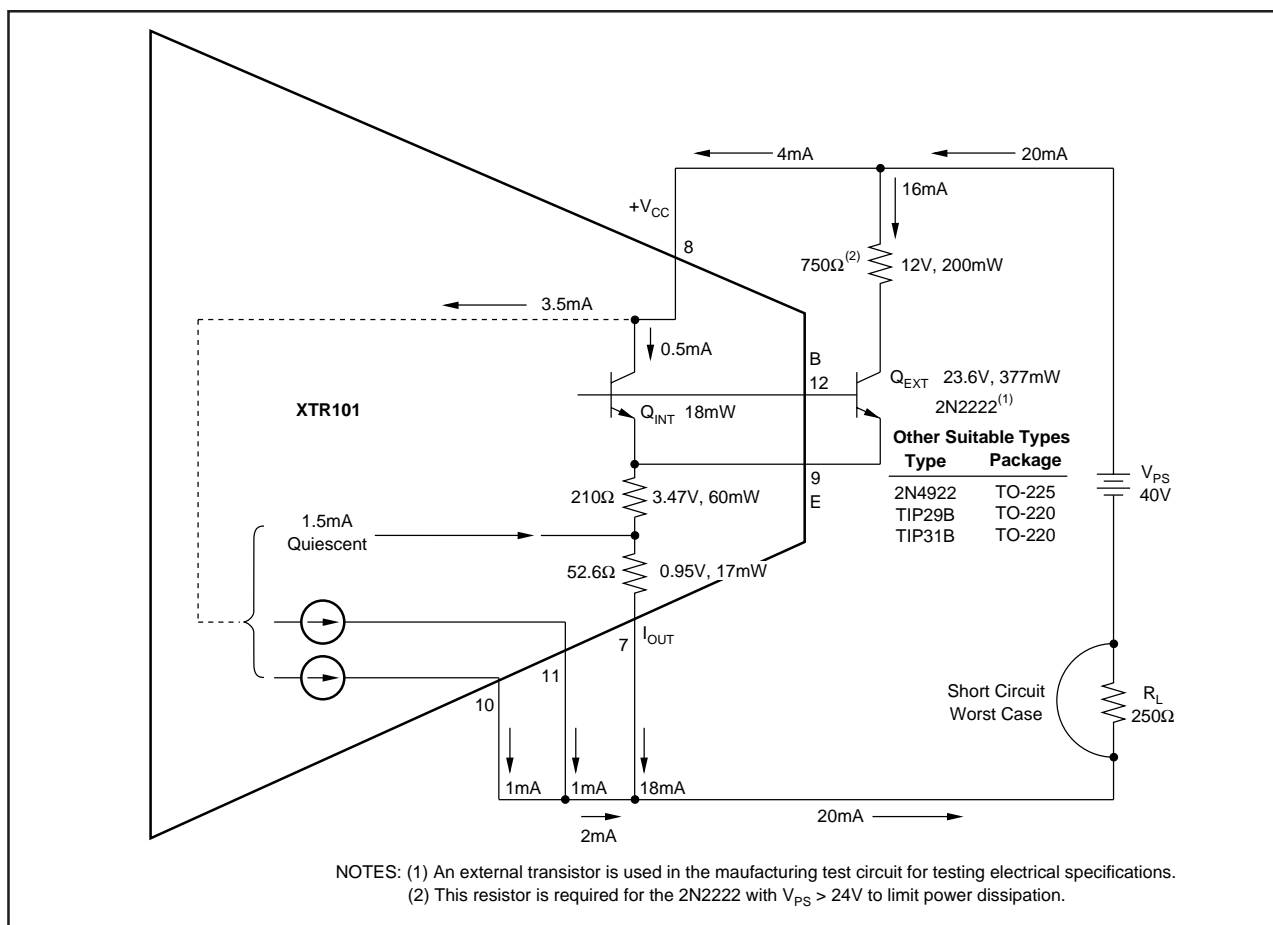

FIGURE 2. Power Calculation of XTR101 with External Transistor.
The optional external transistor, when used, is connected in parallel with the XTR101's internal transistor. The purpose is to increase accuracy by reducing heat change inside the XTR101 package as the output current spans from 4-20mA. Under normal operating conditions, the internal transistor is never completely turned off as shown in Figure 2. This maintains frequency stability with varying external transistor characteristics and wiring capacitance. The actual "current sharing" between internal and external transistors is dependent on two factors: (1) relative geometry of emitter areas and (2) relative package dissipation (case size and thermal conductivity). For best results, the external device should have a larger base-emitter area and smaller package. It will, upon turn on, take about $[0.95 (I_O - 3.3\text{mA})]\text{mA}$. However, it will heat faster and take a greater share after a few seconds.
1. 2N2222 in the TO-18 package. For power supply voltages above 24V, a 750Ω , 1/2W resistor should be connected in series with the collector. This will limit the power dissipation to 377mW under the worst-case conditions shown in Figure 2. Thus the 2N2222 will safely operate below its 400mW rating at the upper temperature of $+85^\circ\text{C}$. Heat sinking the 2N2222 will result in greatly reduced accuracy improvement and is not recommended.